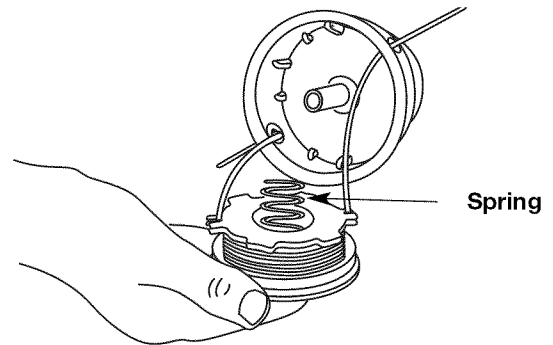

Fig. 23
- Insert the ends of the line through the eyelets in the outer spool and place inner reel with spring inside the outer spool (Fig. 23). Push the inner reel and outer spool together. While holding the inner reel and outer spool, grasp the ends and pull firmly to release the line from the holding slots in the reel.
- Insert the ends of the line through the eyelets in the outer spool (Fig. 23).